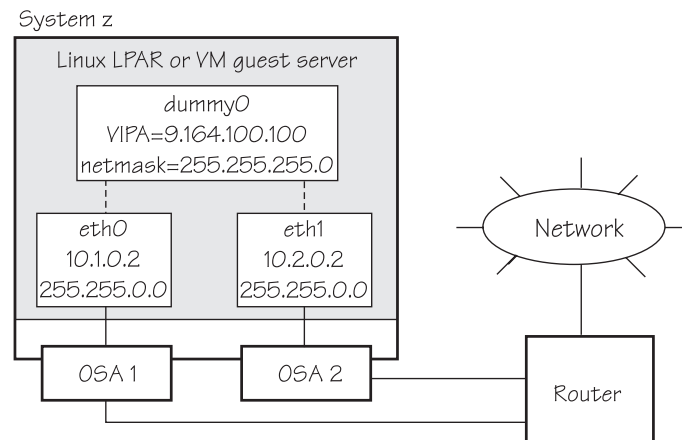

Figure 27. Example of using Virtual IP Address (VIPA)
- Static routing (shown in the example of Figure 27).
Figure 27 shows the network adapter configuration used in the example.